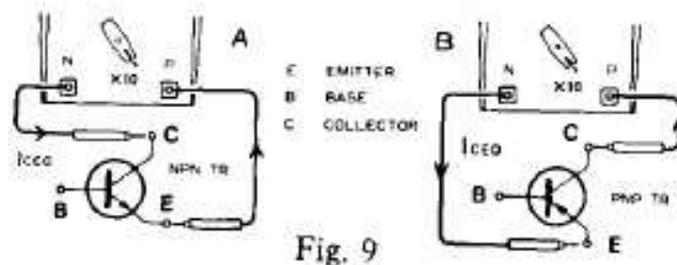
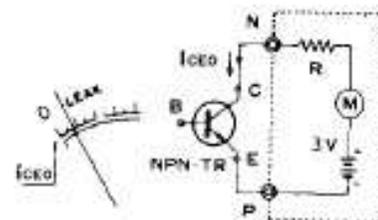

Fig. 9
Fig. 10
2-2 An NPN TR is connected as shown in Fig. 9-A, and a PNP TR, -B.
Represented electrically, Fig. 9 may otherwise be as Fig. 10, where the section on the right of the N and P terminals enclosed in the dotted line corresponds to the internal circuit of the tester.
- 2-3 In Fig. 10, the current flowing across the P and N terminals is I_{CEO} (reverse leakage current) of the TR, and the quantity of the leakage current is read on the LEAK scale in mA.